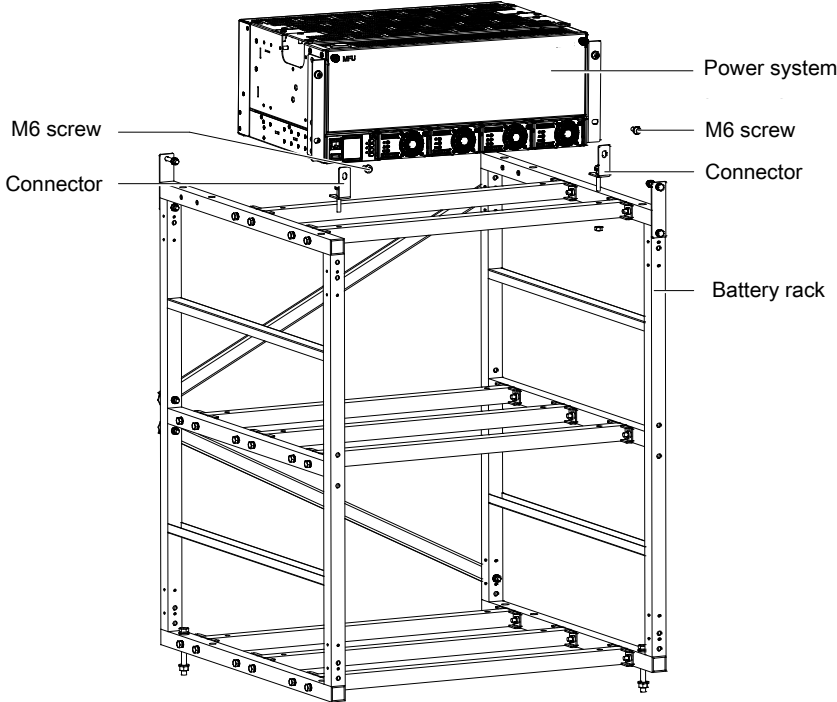

Figure 2-1 Cabinet and rack installation
1. Fix the subrack power system to the battery rack through the connectors with M6 bolts, as shown in Figure 2-1.